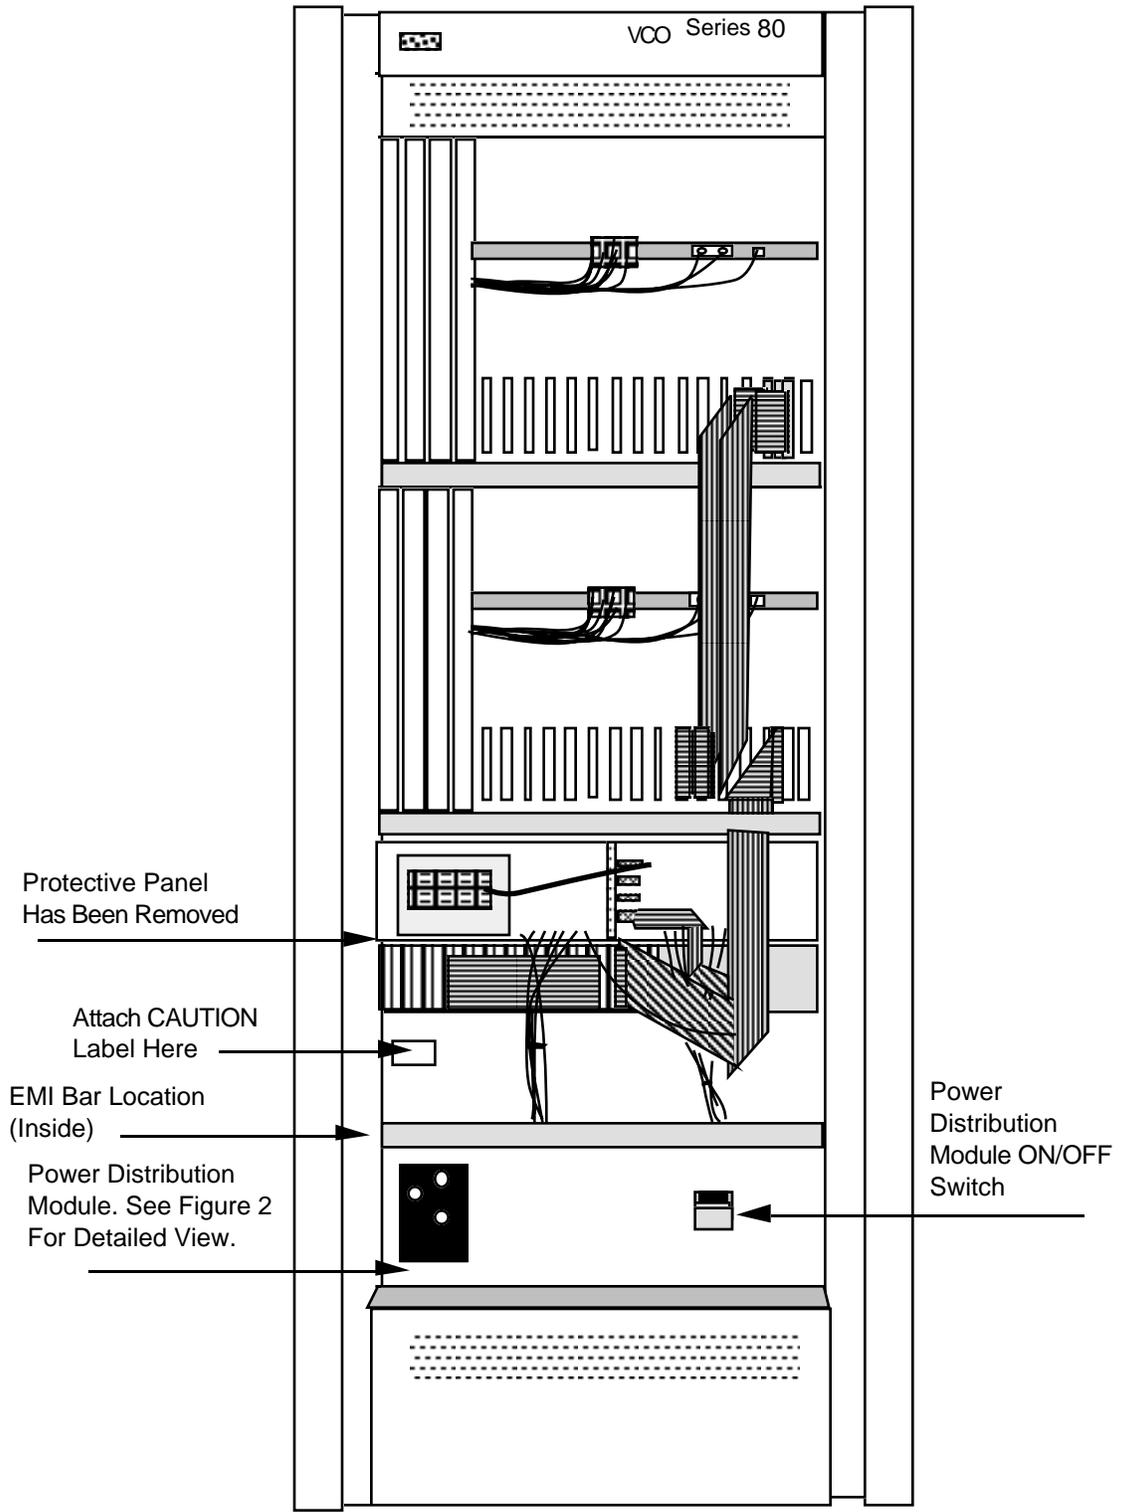

Figure 1: Rear View of VCO/80 System
2. To gain access to the interior of the VCO/80 system, you must remove the protective panel on the back of the system. This panel is located above the power distribution module (the unit that contains the on/off switch). It is held in place with four screws per side. Refer to Figure 1 for location.
4. To make it easier to work on the module, remove the EMI bar that runs across the top of the power distribution module. There are two screws on each side (Figure 1).
5. Remove the four screws, two per side, from the power distribution module. Save the screws to re-install the module when the process is complete (Figure 1). Once the screws are removed, pull the module out away from the cabinet. **NOTE:** Interior connecting cables will prevent you from pulling the power distribution module out completely.
9. Replace the power distribution module into its former location and re-attach it with the four screws you removed earlier. Replace the EMI bar and then the outside covers (Figure 1).
10. Place the CAUTION label supplied with the kit on the upper left corner of the air-intake enclosure. Refer to Figure 1.